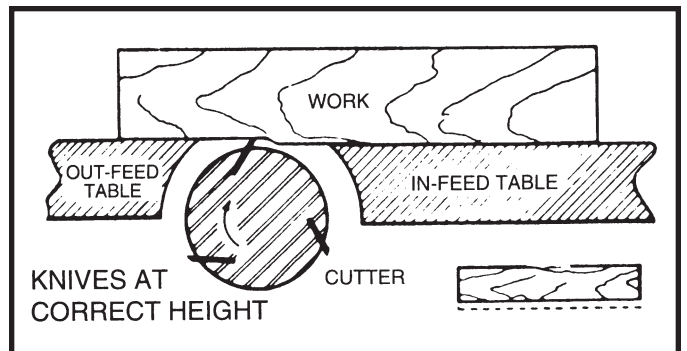

Fig. 31
9. As a final check, run a piece of work slowly over the knives for 6 to 8 inches. The wood should rest firmly on both tables, as shown in Fig. 31, with no open spaces under the finished cut.